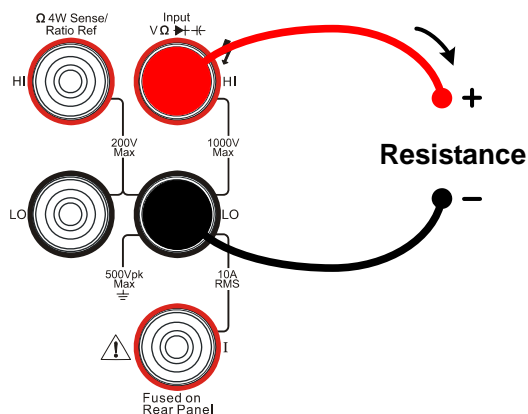

Figure 1-20
1. Connect test leads as Figure 1-20 shown. Red test lead connects the HI Terminal, Black test lead connects the LO Terminal.